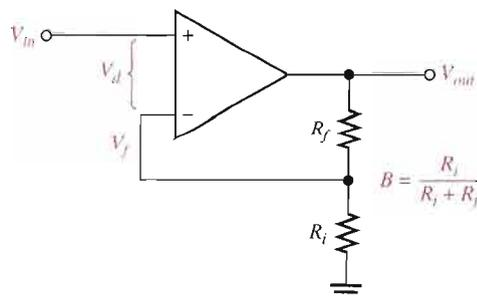

FIGURE 12-24
**Input Impedance** The input impedance of a noninverting amplifier can be developed with the aid of Figure 12-24. For this analysis, assume a small differential voltage,  $V_d$ , exists between the two inputs, as indicated. This means that you cannot assume the op-amp's input impedance to be infinite or the input current to be zero. Express the input voltage as